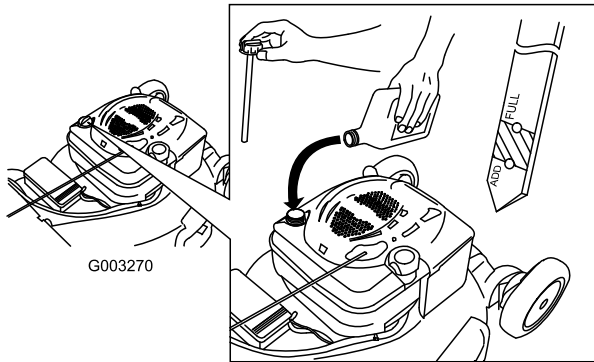

Figure 30
4. **Slowly** pour oil into the oil fill tube until the oil level reaches the Full line on the dipstick (Figure 30). **Do not overfill.** (Max. fill: 20 oz. (0.59 l), type: SAE 30W detergent oil with an API service classification of SF, SG, SH, SJ, SL, or higher.)